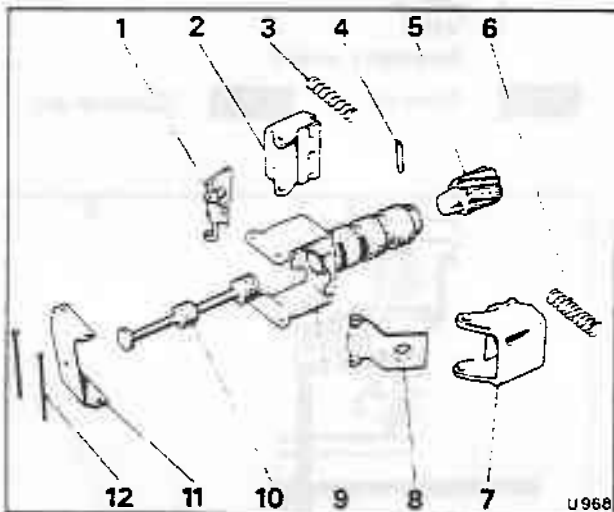

Fig. T9-4 Governor assembly – exploded
2. Remove the pins, thrust cap, governor weights, and springs (see fig. T9-4). The weights are interchangeable and need not be marked for identification.